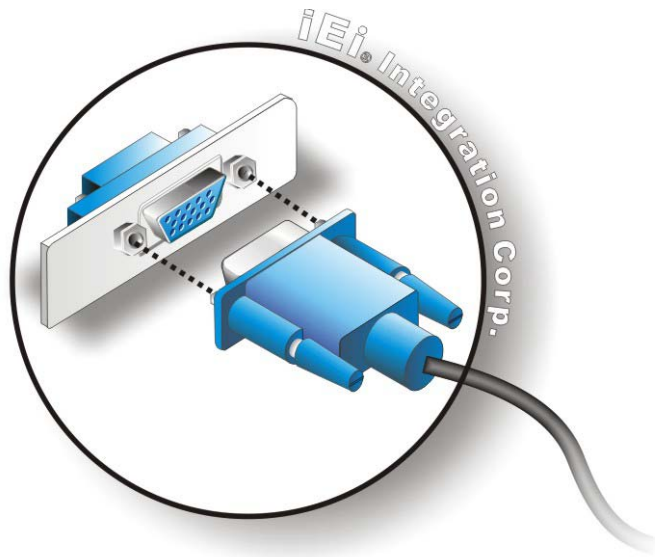

Figure 3-23: VGA Connector
- Step 3:** **Insert the VGA connector** Once the connectors are properly aligned with, insert the male connector from the VGA screen into the female connector on the TANK-860-HM86 Series. See **Figure 3-23**.